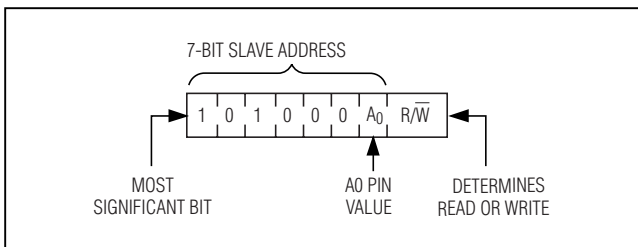

Figure 6. DS4510's Slave Address and the  $R/\bar{W}$  Bit
**Slave Address and the R/W Bit:** Each slave on the I2C bus responds to a slave addressing byte sent immediately following a start condition. The slave address byte contains the slave address and the R/W bit. The slave address (see Figure 6) is the most significant 7 bits and the R/W bit is the least significant bit.